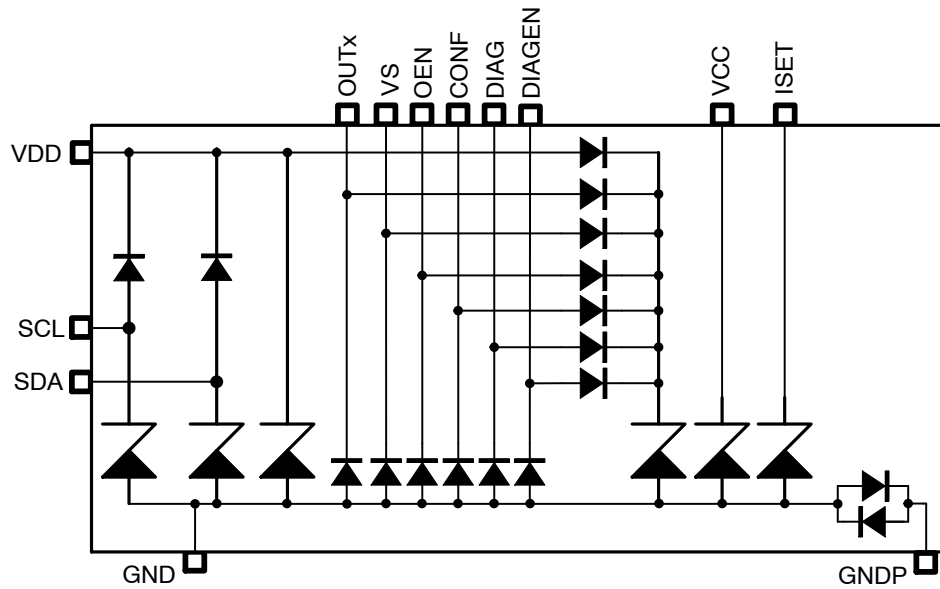

Figure 2. ESD Schematic
- The I2C pins (SCL-and SDA-pins) must be left NC or connected to GND as those pins are internally protected via internal diodes to VDD-pin (See Figure 2)